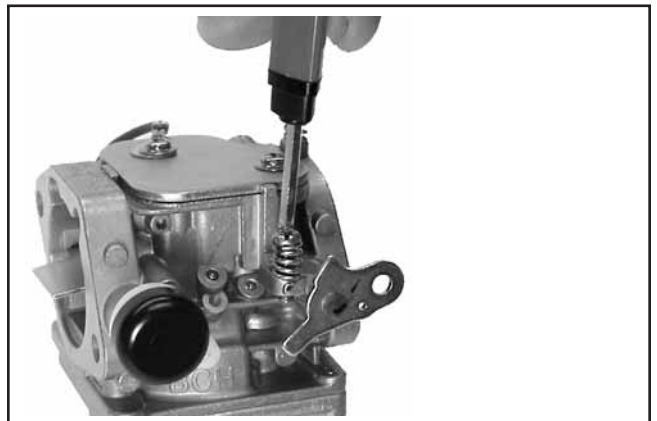

Figure 5-27. Installing Idle Speed Adjusting Screw and Spring.
18. Place the shorter new spring onto the idle speed adjusting screw and install it into the carburetor. Thread in until 3 or 4 threads are exposed, as an initial adjustment. See Figure 5-27.